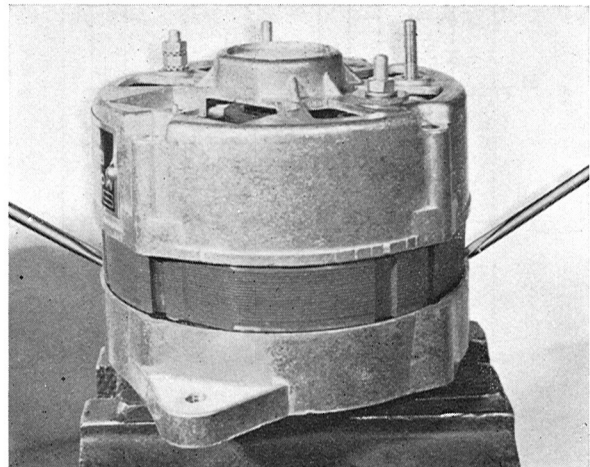

Fig. 3-31. Alternator disassembly
5. Remove stator and slip ring end shield with the help of two screwdrivers, which are inserted in two of the sockets between the stator and drive end shield, see Fig. 3-31.